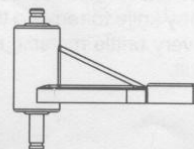

Figure 14A
Step 11. Insert a 3/32" x 3/16" bushing (38) into the two large holes in the bottom of the steering brace (39), chamfered end first. Insert the other two bushings (38) into the two holes in the main chassis (11).
Step 12. Insert a 3/32" hinge pin (21) through the hole in the steering idler arm (35) and position it as shown in fig. 14A. Place the servo saver assembly and the steering idler arm (35) into the bushings (38) in the chassis (11) so that the installed drag link is in the front.
Step 13. Place the steering brace (39) on top of the servo saver assembly and steering idler arm (35) being sure that the bushings (38) slide over the pins.
Step 14. Attach the steering brace with two 4-40 x 3/8" cap head screws (6) through steering brace (39) and into chassis (11).